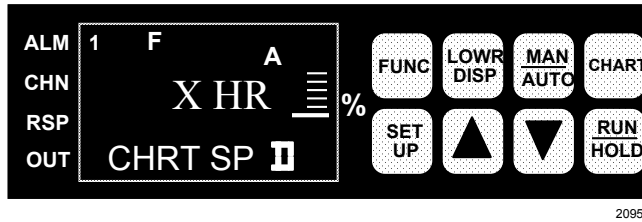

Figure 2—Operator interface includes displays and keypad for comprehensive interaction with the recorder and the process.
Two digital displays (Figure 2) present the process variable (PV) value and by key selection, the controller set point; controller output; deviation from reference input; or engineering units as desired. The lower display can be set to scroll or hold.